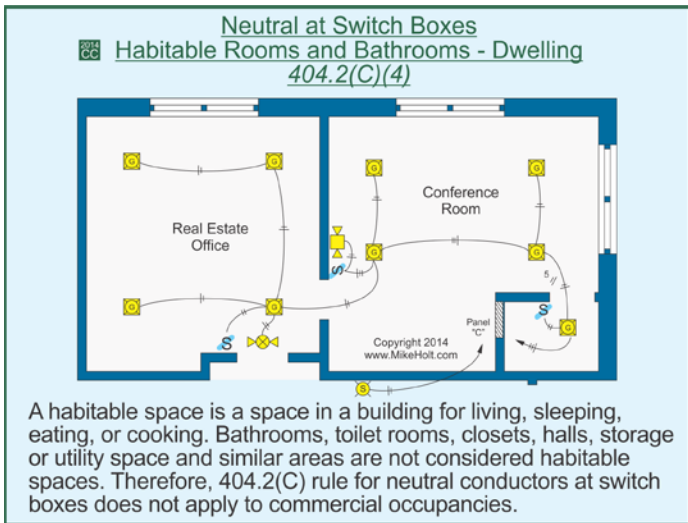

Figure 404-8
- A habitable space is a space in a building for living, sleeping, eating, or cooking. Bathrooms, toilet rooms, closets, halls, storage, or utility space and similar areas aren't considered habitable spaces. Therefore the current 2014 rule doesn't apply to commercial occupancies. Figure 404-8